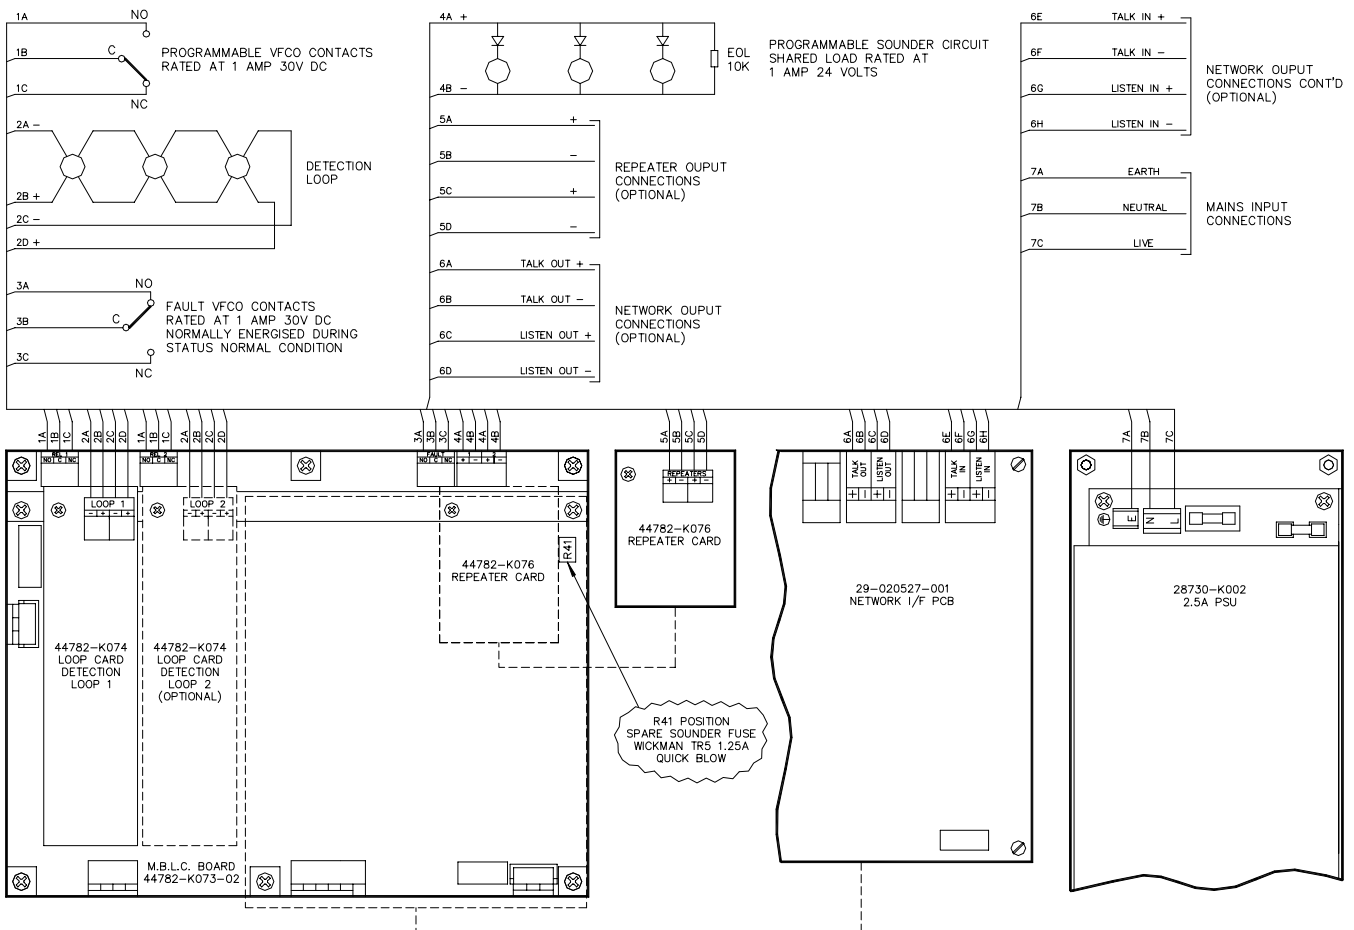

Figure 2: System Schematic Diagram
3.1 SYSTEM SCHEMATIC - Figure 2
Note, A spare parts bag is not provided with this control panel. Battery leads and End of Line resistors are factory fitted to the associated output terminals. A spare sounder fuse is provided. Refer figure 2 for location.